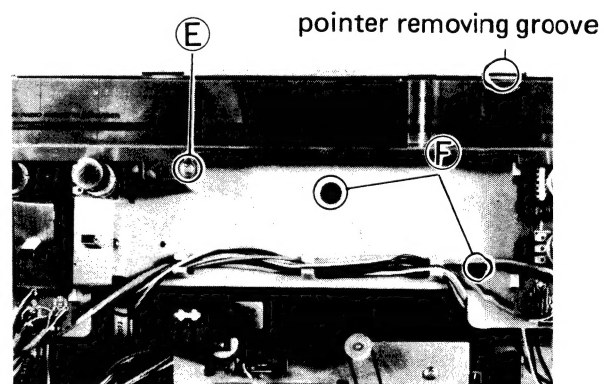

Fig. 7
- (1) Remove screw (E) (five) and move pointer to the groove to remove easily scale plate.
- (2) To re-assemble toughly it, first of all, you must fix screw (E) as shown in Fig.7.
- (3) Please make sure of it if LED and LED hall are agree with each other or not.